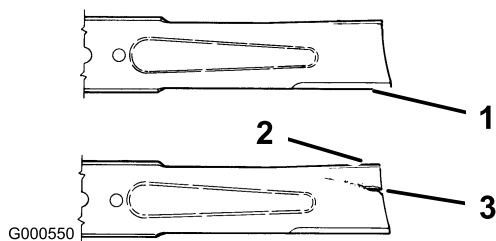

Figure 35
1. Inspect the cutting edges (Figure 35). If the edges are not sharp or have nicks, remove and sharpen the blades; refer to Sharpening the Blades.
2. Inspect the blades, especially the curved area (Figure 35). If you notice any damage, wear, or a slot forming in this area (item 3 in Figure 35), immediately install a new blade.